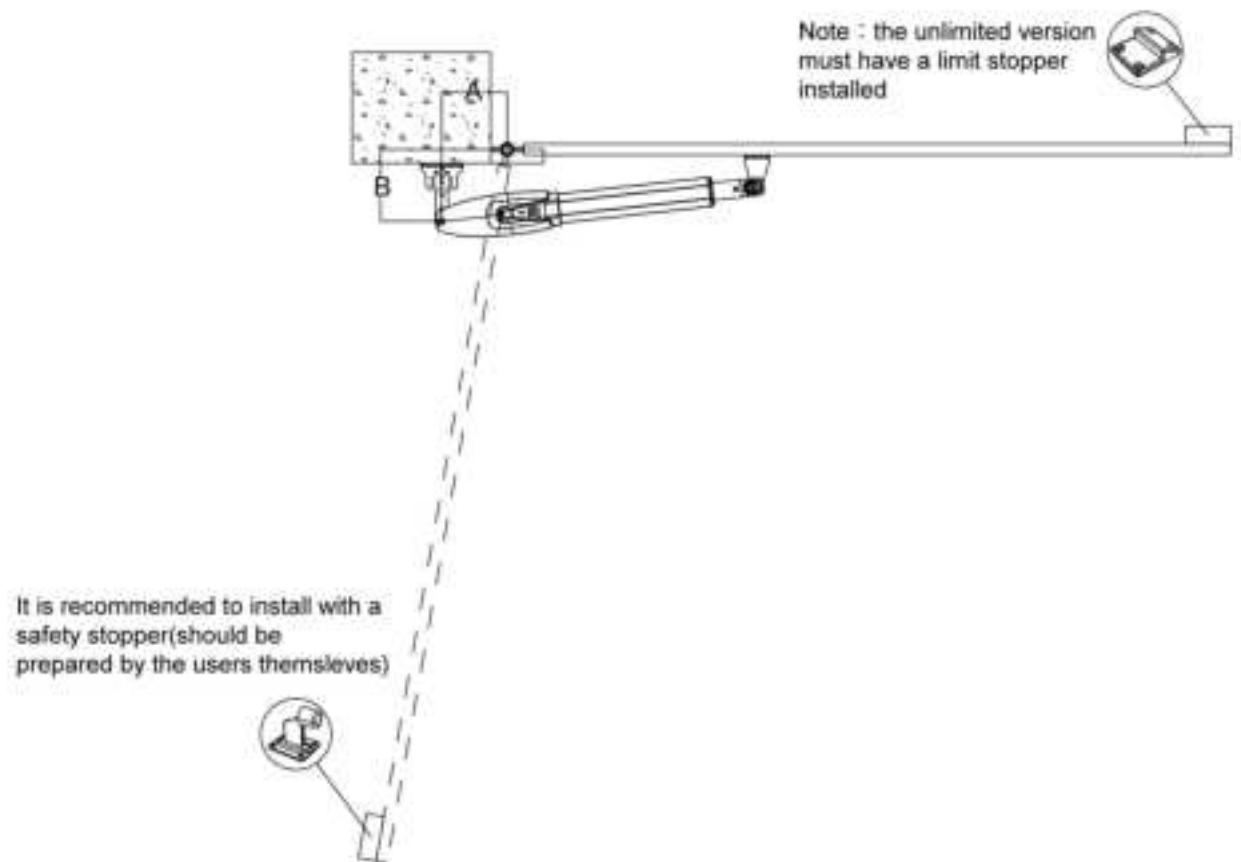
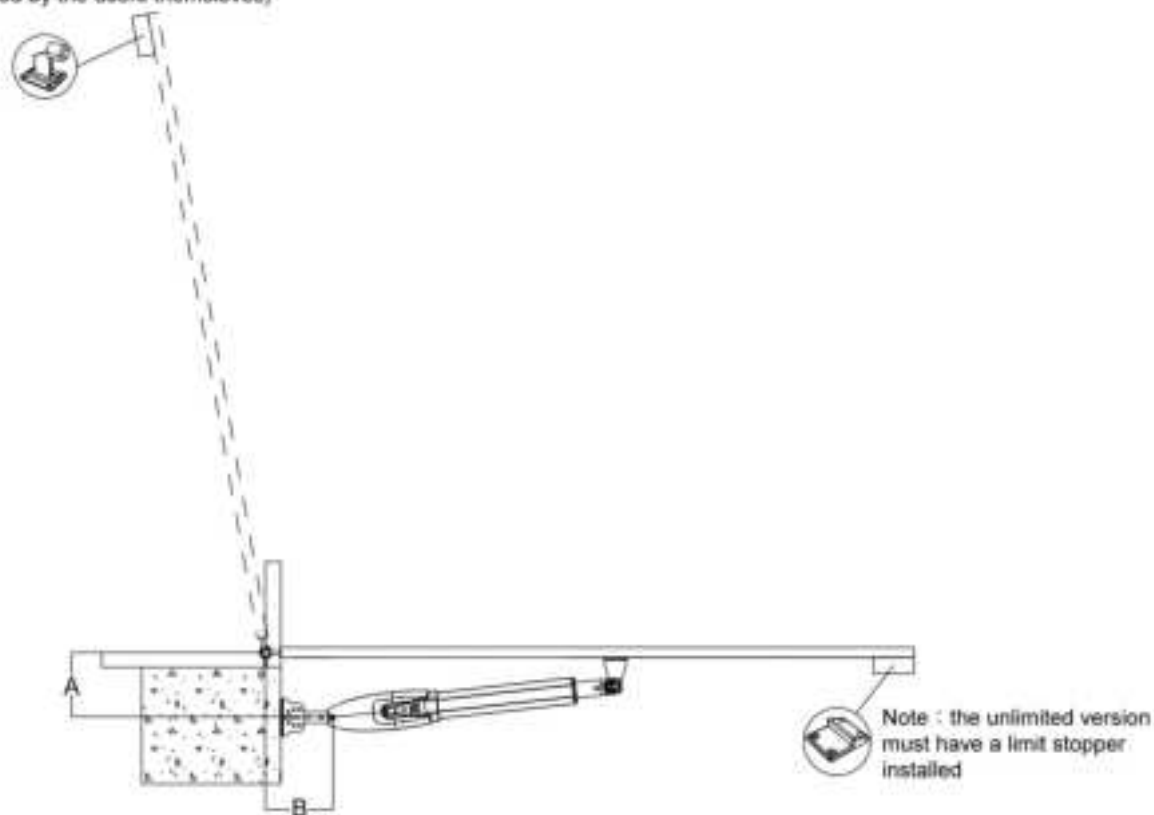

Figure 2
Figure 3
- To ensure safety and protect the machines, please install a gate stopper at the open limit position when the gate opens outward to prevent the gate from running over its travel. Meanwhile, to enable the 2 swings to close to its accurate limit position, please install a limit stopper at the closed limit position (as shown in figure 3). Similarly, when the gate opens inward, please install a limit stopper at the closed limit position (as shown in figure 2).